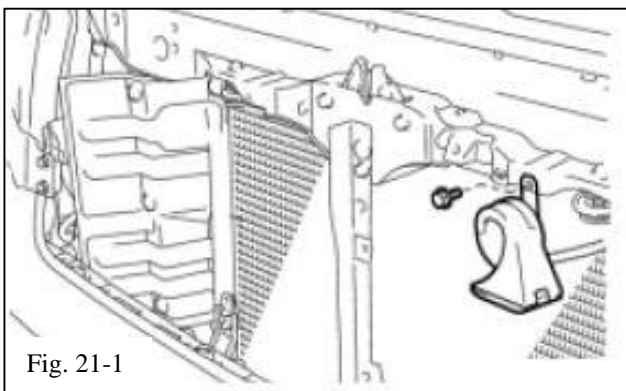

Fig. 21-1
(1) Disconnect the low pitch horn connector.
(2) Unbolt and remove the low pitch horn (Fig. 21-1).
(3) Set the horn and bolt aside for reuse.